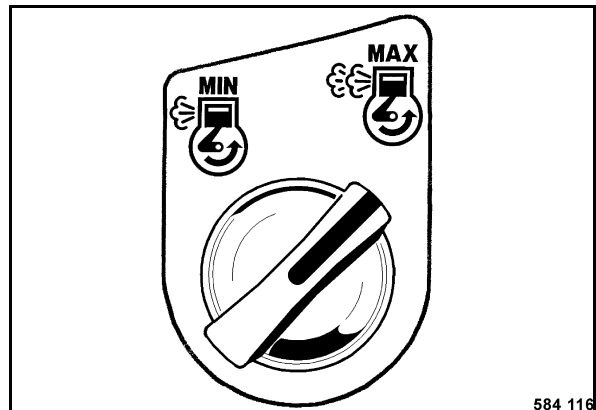

Fig. 93
- Turn the rotary switch (Fig. 93) for engine speed to position "MAX".